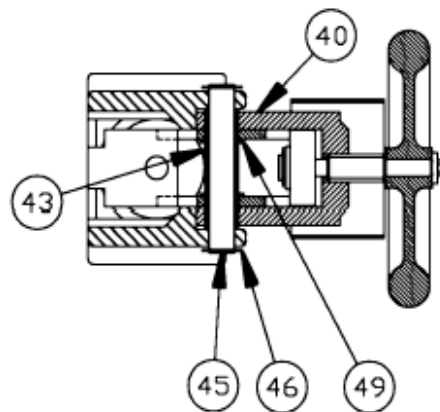

Figure 12
- S. Hold the handwheel holder (40) in position between the yoke legs as shown in Figure 12 and slide the lever pin (45) through the hole in the yoke and lever. Be sure that levers (44) are below the stem flange (2).
- T. Secure the lever pin (45) with the second retaining ring (46).